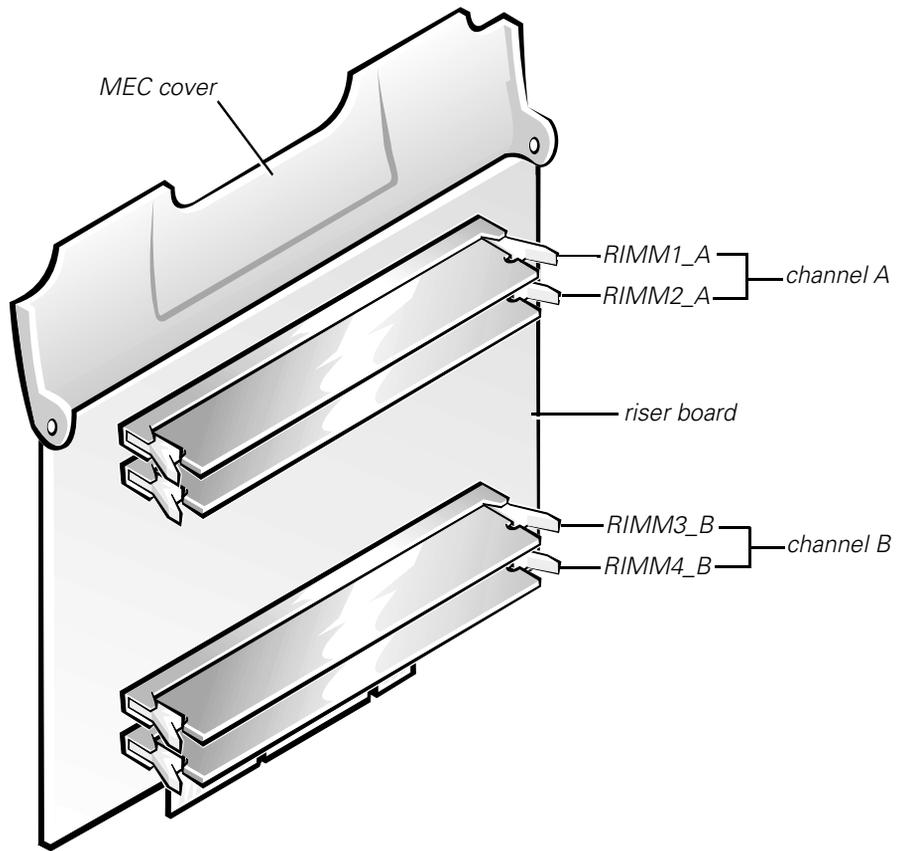

Figure 1-1. RIMM Socket Designations
Figure 1-1 shows the RIMMs and RIMM sockets.
As an example, if you install only one pair of RIMMs in the RIMM1_A socket of each MEC, then you must install a CRIMM in socket RIMM2_A of each MEC. Channel B (sockets RIMM3_B and RIMM4_B) may remain empty, or it may contain one or two CRIMMs per MEC (see Figure 1-1).
5. To lift the MEC from the system board, rotate the MEC cover up and remove the MEC from the computer (see Figure 1-1).